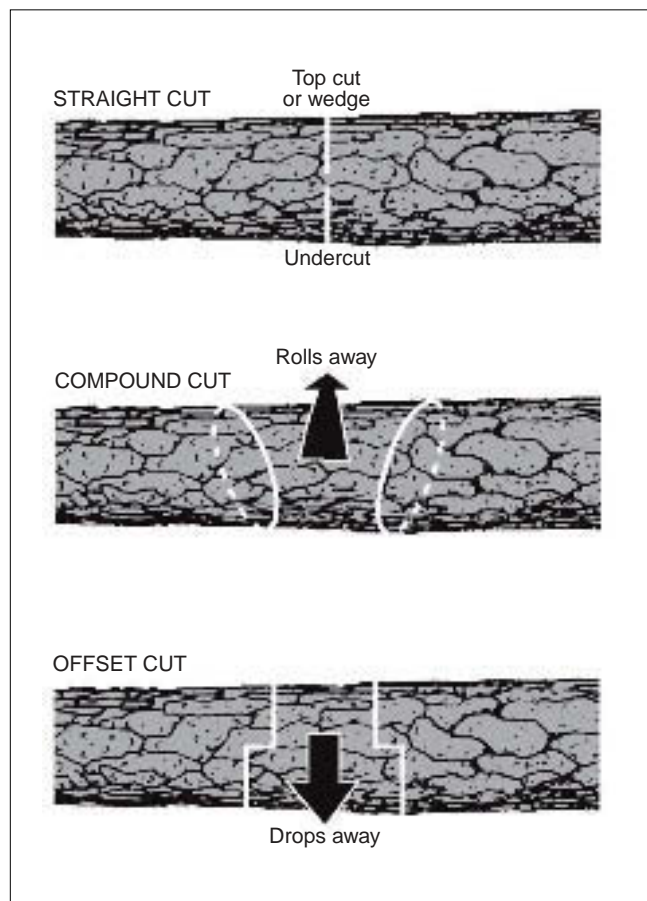

Figure 4-14—Three basic cuts: straight, compound, and offset.
**Types of Cuts**—The three basic types of cuts are: the straight cut, compound cut, and the offset cut. We will describe each type of cut and its usual application (figure 4-14).